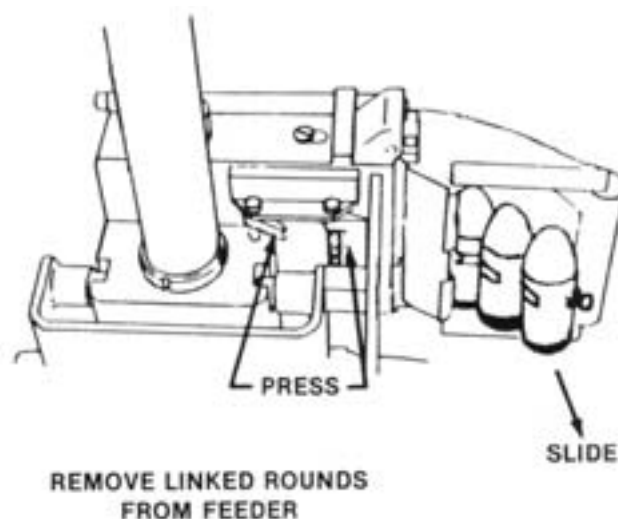

Figure 5-50. Clearing Rounds From Gun.
b. Unloading. To unload the gun: open the cover, reach beneath the feeder, and press the primary and secondary positioning pawls (see figure 5-50). At the same time, slide the linked rounds out of the feeder and feed tray.